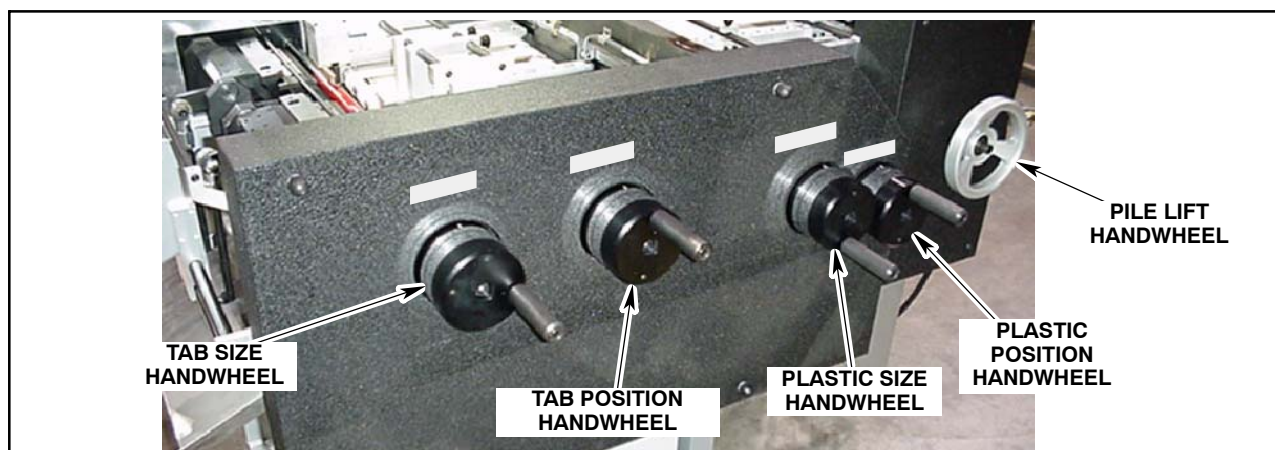

Fig. 4-18. Handwheel Locations
**Note !** *The handwheels referred to In this section are shown on drawing Fig. 4-18.*
The recommended settings for the plastic size handwheels and tab size handwheel is 3.00 inches and 4.00 inches (76.2mm & 101.6mm) respectively. (See Fig. 4-18. for handwheel locations) These settings are to be used no matter what size paper is being used for calibration procedures.